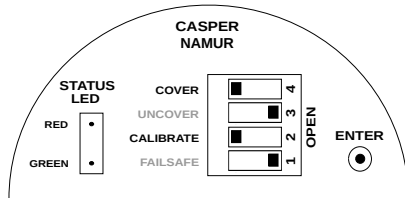

Figure 17: High Calibration Switch Position
- To start with the calibration, set the CALIBRATE & COVER switch to CLOSE (Opposite of OPEN for DIP switch) position as shown in Figure 17.
- Set the CALIBRATE and COVER switch to CLOSE (Opposite of OPEN in a DIP switch) position as shown in Figure 17.